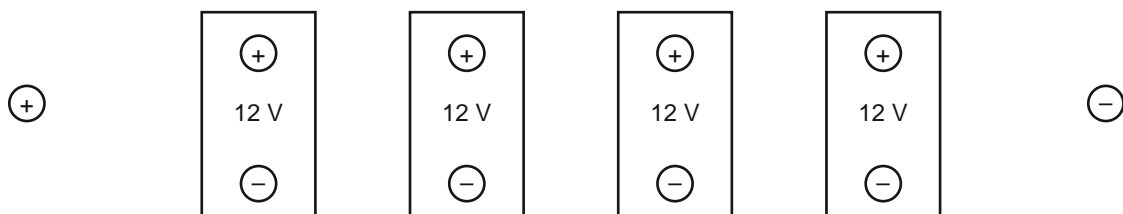

Figure 10
- a. Using **all** of the batteries shown in Figure 10 below, draw the connections to the batteries to give a 24 V output. 2 marks